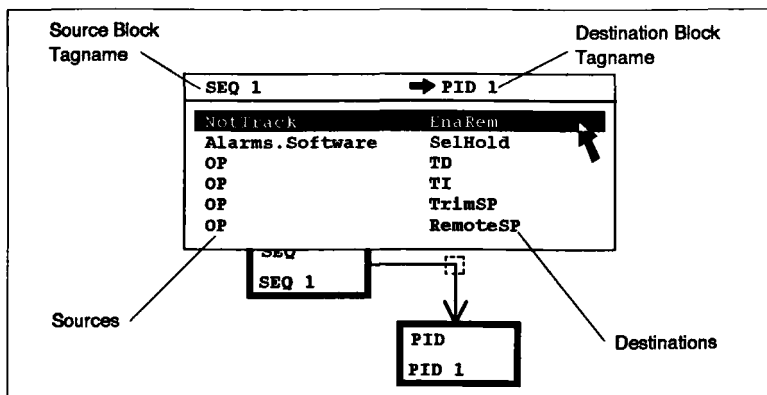

Figure 9.3 Example Connections Menu
- **Querying Wires.** A menu of all the connections in the selected wire or 'bus' appears with sources on the left and destinations on the right, headed by the two block tagnames. The list is read-only; it cannot be used to edit connections. Figure 9.3 shows an example connections menu.